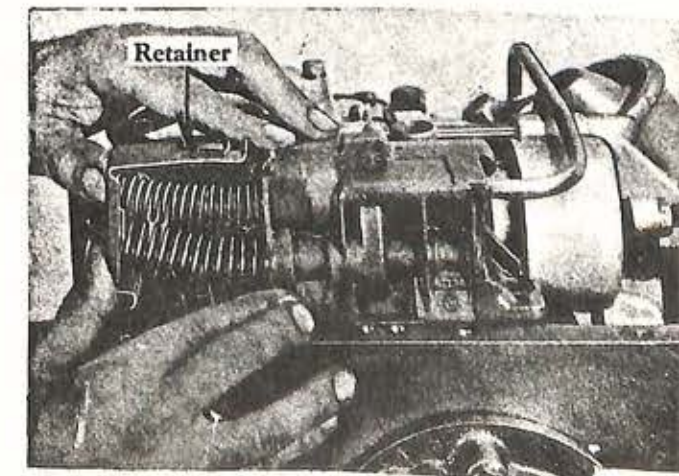

Fig. 24
3. Remove the pressure regulator valve spring retainer (Fig. 24). **CAUTION:** Maintain constant pressure on the retainer to prevent distortion of the retainer and sudden release of the springs.